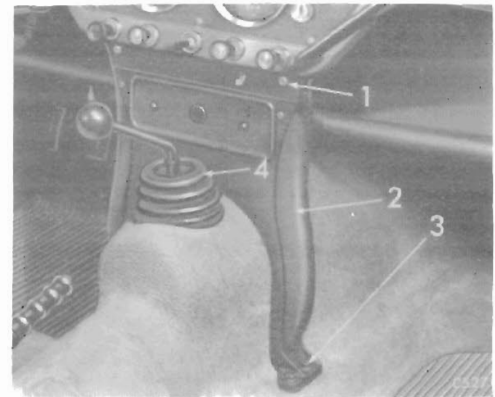

Fig. 2.
Referring to Fig. 2, release the casting (2), fitted only to the Spitfire, by removing the bolts (1) and (3) and by detaching the tachometer drive cable from the instrument.